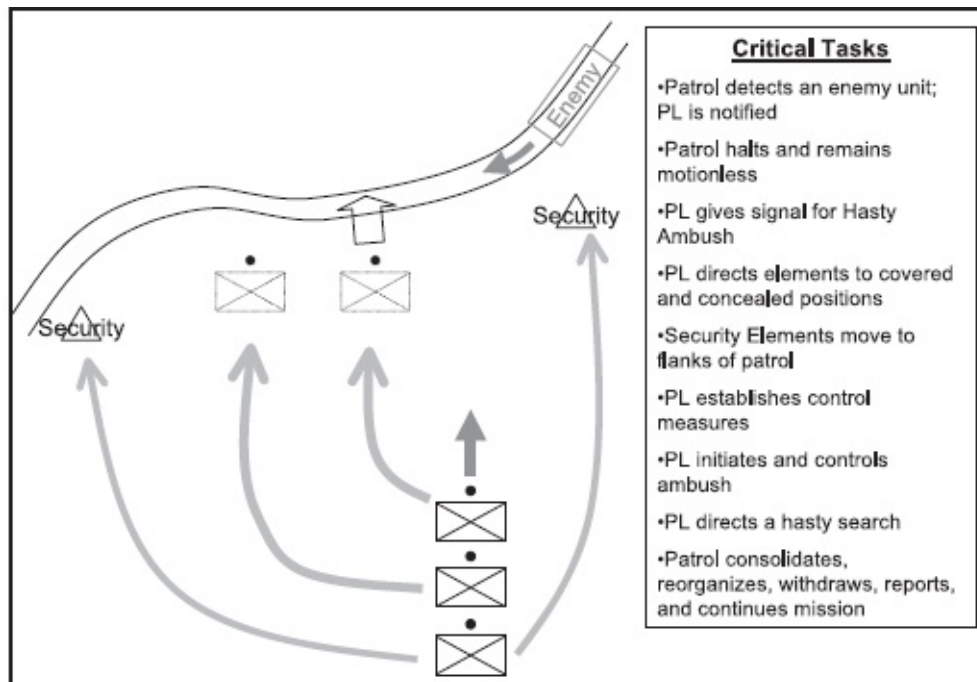

Figure 3-4. Actions on the objective – hasty ambush
- (1) **Task Standards.** The platoon moves quickly to concealed positions. The ambush is not initiated until the majority of the enemy is in the kill zone. The unit does not become decisively engaged. The platoon surprises the enemy. The patrol captures, kills, or forces the withdrawal of all of the enemy within the kill zone. On order, the patrol withdraws all personnel and equipment in the kill zone from observation and direct fire. The unit does not become decisively engaged by follow-on elements. The platoon continues follow-on operations.
- (2) **Actions on the Objective (Hasty Ambush).** See Figure 3-4.